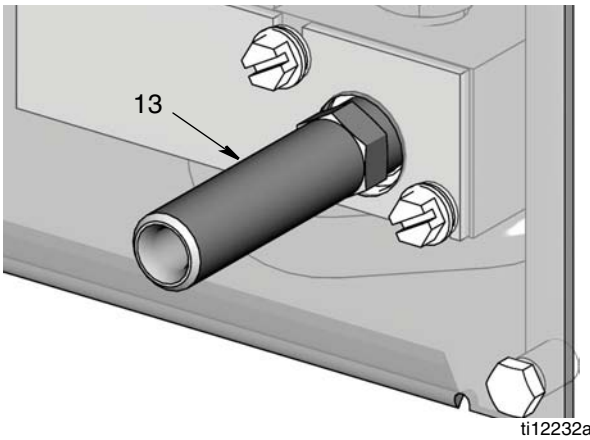

FIG. 19
9. Install nipple adapter (13) to manifold (14) through large hole in front panel (107) (FIG. 19).